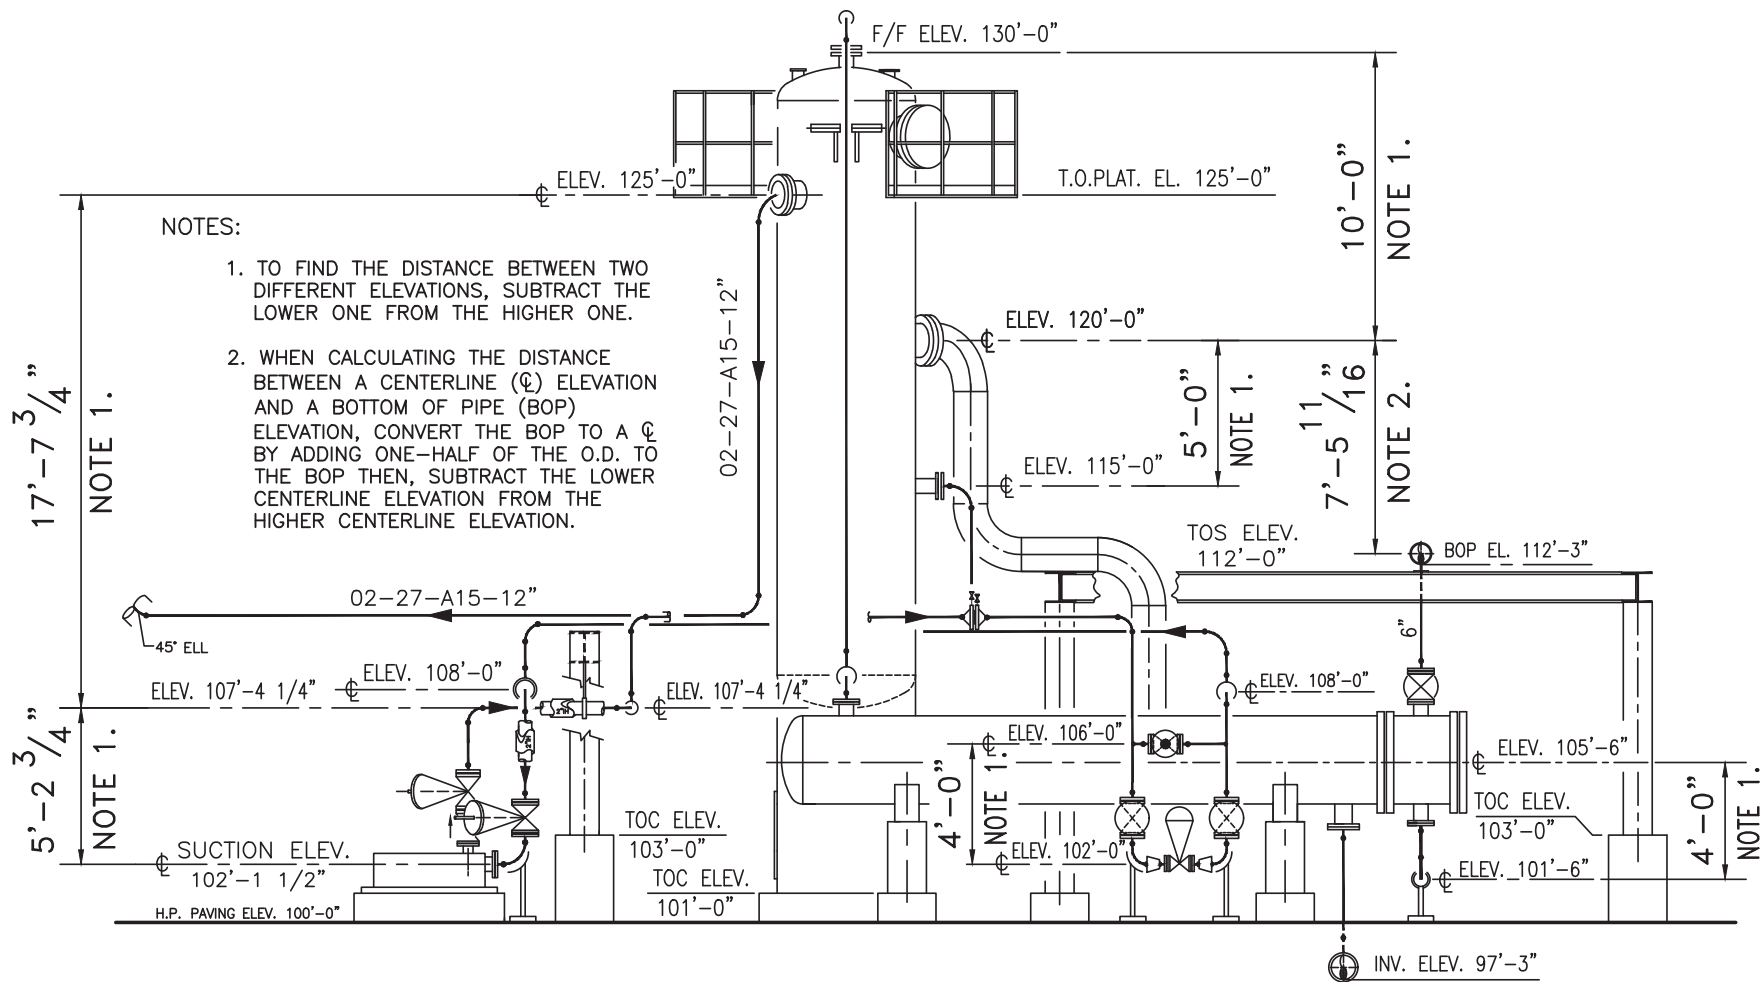

FIGURE 9.7 Vertical distance calculations with coordinates.
Calculating vertical dimensions is somewhat easier. Simply subtract the lower elevation from the higher elevation to determine the distance between the two. However, you must be certain that elevations of the same type are used. For example, always use two "Centerline" elevations, not one "Centerline" and one "Bottom of Pipe" (BOP). You must convert BOP elevations to Centerline elevations before subtracting. This is accomplished by adding one-half the actual outside diameter (OD) of the pipe to the BOP elevation, before subtracting. Also, be aware that lines installed below grade are labeled using *invert* elevations. Invert elevations identify the inside bottom of pipe elevation, that is, the distance from the bottom inside of the pipe to the ground above it. Figure 9.7 illustrates the use of elevations to calculate vertical dimensions.